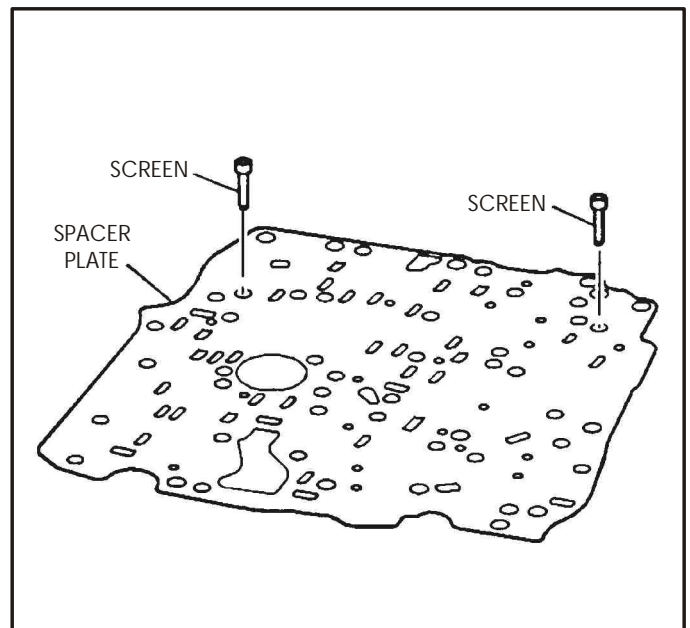

Figure 185
97. Ensure that two screens are in spacer plate and not damaged, as shown in Figure 185. Refer to Page 22 for accurate locations of screens.